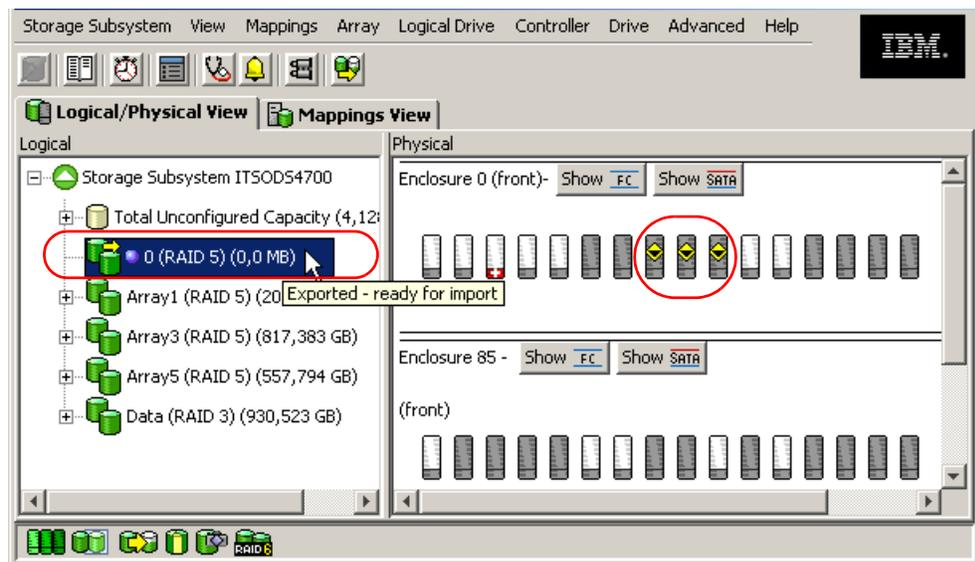

Figure 12-35 Destination DS4000: Migrated array detected
- Wait (up to five minutes) until the inserted drive pair is displayed in the DS4000 Storage Subsystem Management window before inserting the next drive pair. The storage subsystem represents arrays in offline state as the first disk is inserted. Continue inserting all the disks to migrate until all of the drives making up the array are recognized as offline. See Figure 12-35.
Note: In Figure 12-35 on page 703 pay attention to the array name. If the array name collides with an existing name, a different name is assigned to allow the migration, as in our example. You can change the label later once the import is complete.